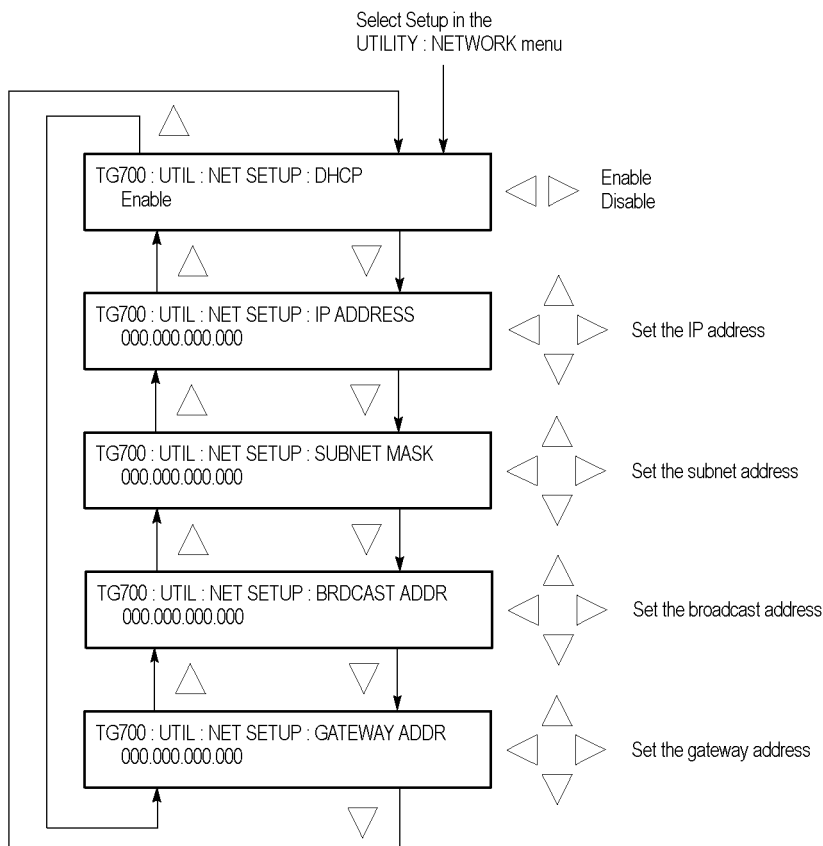

Figure 29: NETWORK SETUP submenu
4. Use the left (◀) or right (▶) arrow button to select **Setup**. This accesses the NETWORK SETUP submenu. (See Figure 29 on page 68.)